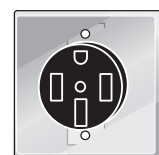

Fig. 21
- 4 or 3 wire, 40/50 ampere rated wall receptacle and mounting plate (Fig. 21).